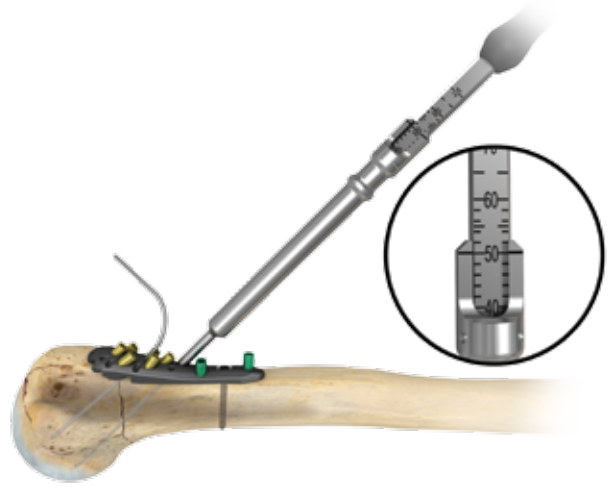

Figure 22
- ⓘ **Note:** If a second measurement is required, use the Shoulder Plate Depth Gauge to measure directly off the plate (Figure 22).